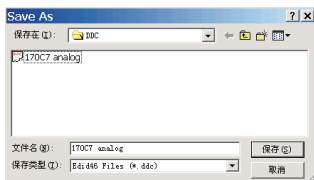

Fig. 25
- Click (Save) icon (or click "file"->"save as") from the tool bar and give a file name as shown in Fig. 25. The file type is EDID46 file (\*.ddc) which can be open in WordPad. By using WordPad, the texts of DDC data & table (128 bytes, hex code) can be modified. If DDC TEXTS & HEX Table are completely correct, it can be saved as .ddc file to re-load it into DDC IC for DDC Data application.